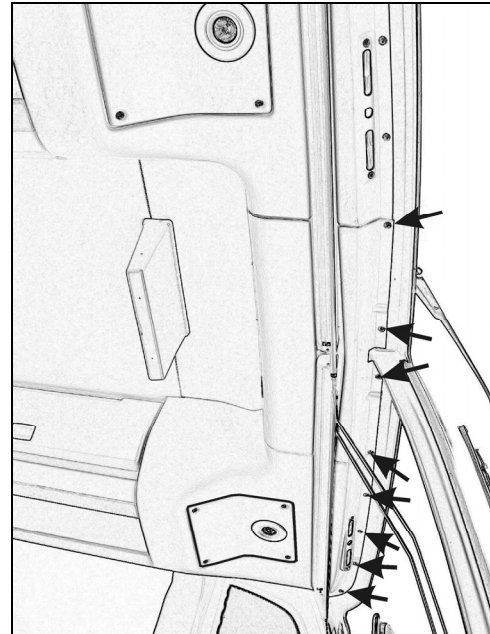

FIGURE 2
2. Remove fixing screws located along windshield and above driver to be able to move front L.H. finishing panel aside (roadside) (Refer to figure 2).